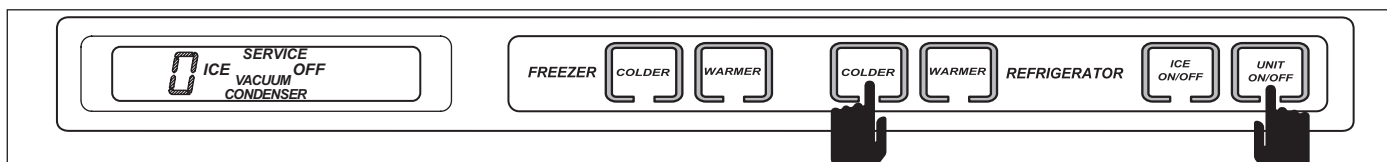

Figure 3-25. Initiating Diagnostic Mode - Press Either COLDER Key and UNIT ON/OFF Key simultaneously
1. To initiate diagnostic mode, press and hold either COLDER key, then press the UNIT ON/OFF key. All indicators on the LCD will light-up, indicating diagnostic mode is now active. The first reading on the LCD will be the freezer compartment temperature (See Figure 3-25).